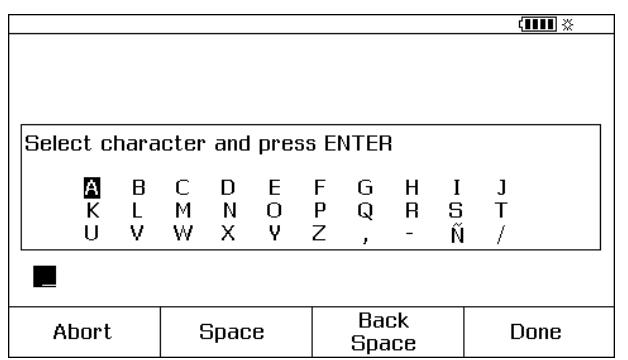

Figure 11. Personalize the Product
4. Push  or the **Choices** softkey. The screen in Figure 11 is shown.